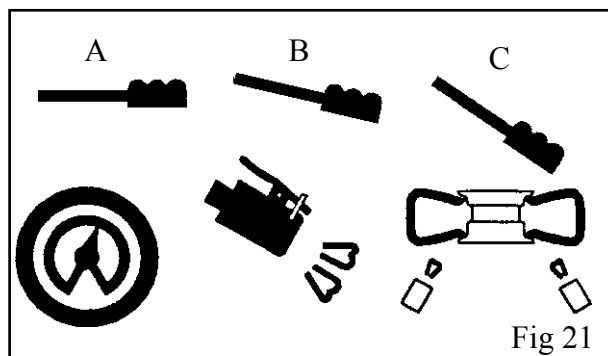

Fig 21
- If the bead of tyre is not well seated, due to a strong bead, lift tyre manually until the upper bead seals against the rim, then press pedal all the way down (C - Fig. 21). A strong jet of air will be released through the nozzles in the slides and this will help the bead seal.
- Release the tyre; set the pedal in the intermediate position (B - Fig. 21) and continue to inflate the tyre with short jets of air and constantly checking the pressure between air jets until the required pressure has been reached.